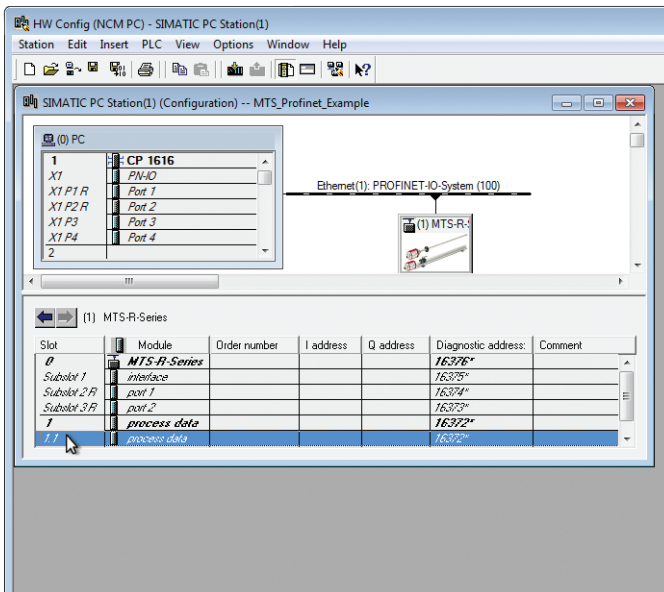
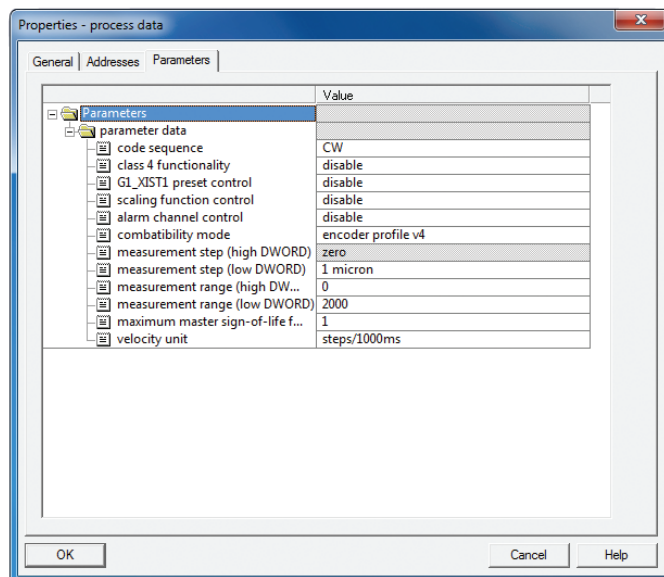

Fig. 47: Properties – process data (source: Siemens)
Fig. 48: Properties – process data (source: Siemens)
4. Now you can double-click to configure “Slot 1”, “Subslot 1” (process data) (Fig. 47). Select tab “Parameters” to realize the following sensor settings (Fig. 48):
- a) *Code sequence*: clockwise (CW)/counter clockwise (CCW) (measurement direction clockwise/counterclockwise)